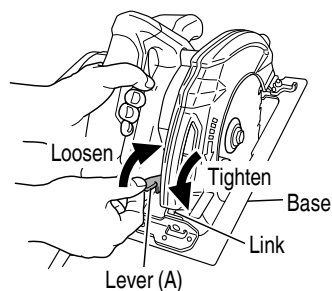
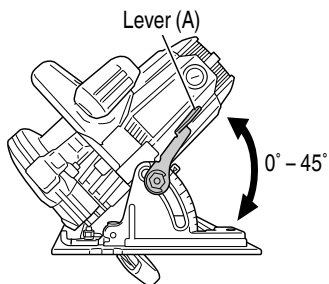

Fig. 7
Fig. 8
If the lever (A) to adjust cutting depth (Fig. 7) and lever (A) to adjust angle of inclination (Fig. 8) are loose, injury can result. Make sure that they are tightened securely.
## 1. Adjusting the cutting depth (Fig. 7)
As shown in Fig. 8 by loosening the lever (A) on the bevel scale, the saw blade may be inclined to an angle of 45° in relation to the base.